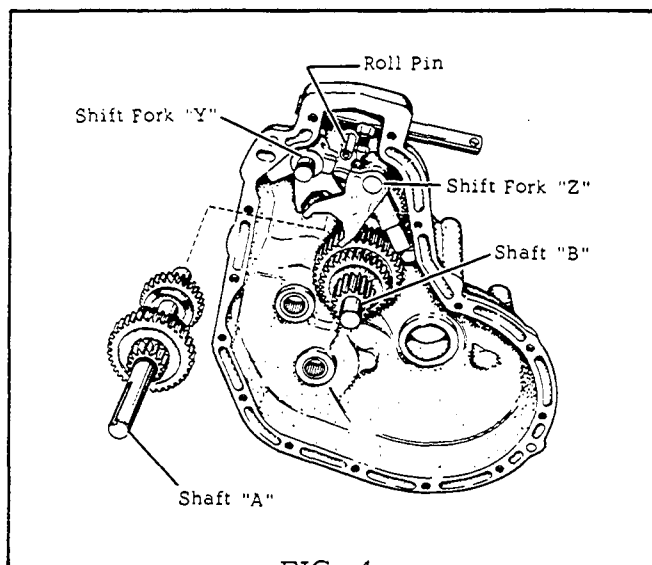

FIG. 4
Now, lift the pulley shaft "A" with one hand to clear the lower bearing, and with the other hand, raise the cluster of gears on shaft "B" slightly to allow pulley shaft "A" and its gears to be moved away from the shift forks. When the yokes of the shift forks disengage from the shift rings on the gear clusters on shaft "A", the shaft and gears may be lifted free of the transmission. Now, lift out shaft "B" and its gear. See Fig. 4.
8. To remove the shift rod, first loosen the lock nut on the shift stem, and unscrew the shift stem from the shift rod. The shift rod may then be pulled from the case. See Fig. 4.